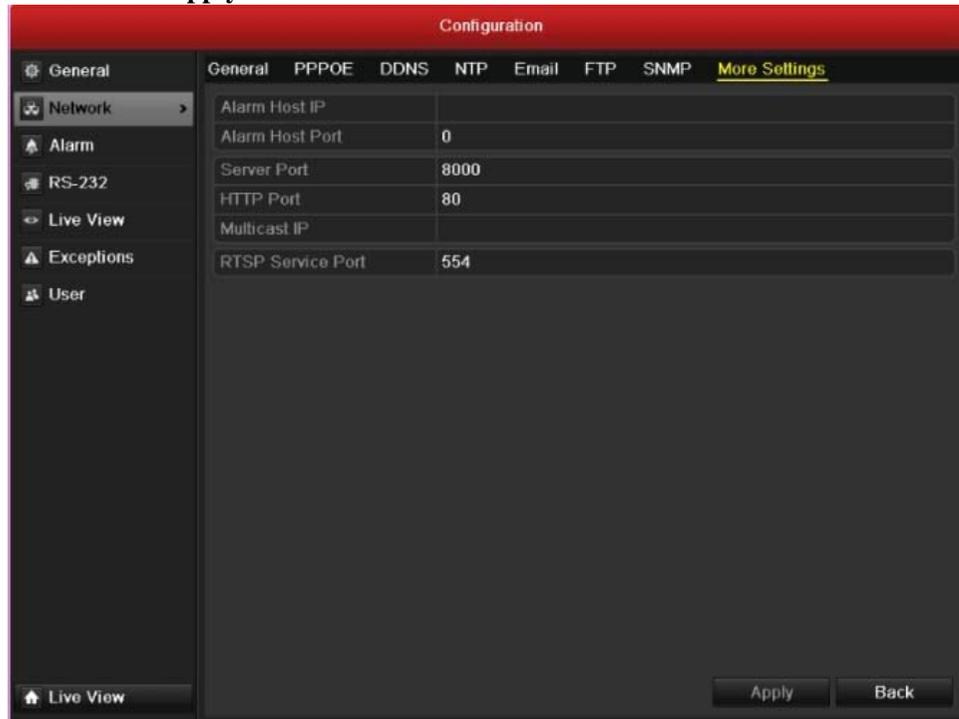

Figure 10.14 More Settings Interface
2. Select the **More Settings** tab to enter the More Settings interface, as shown in Figure 10.14.
2. Select the **More Settings** tab to enter the More Settings menu, as shown in Figure 10.14.